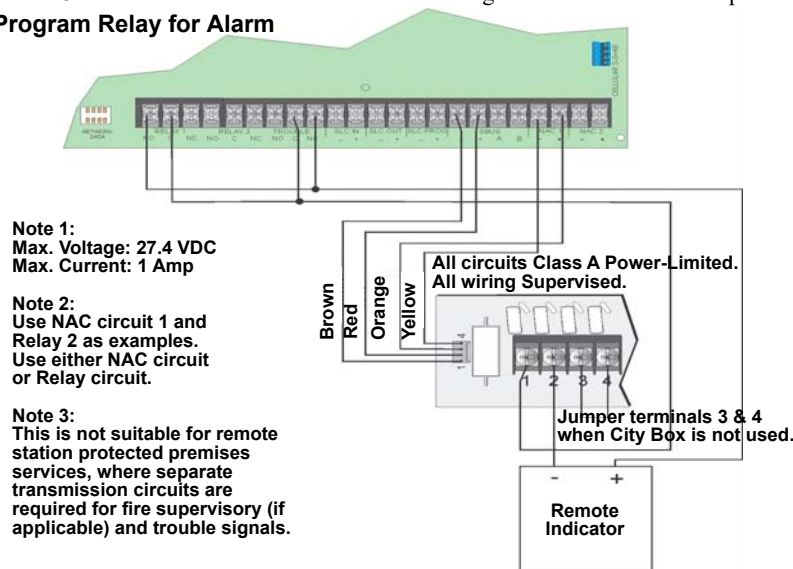

Figure 4.29 Polarity Reversal Connection Using the 5220 Module
2. Wire the 5220 to the control panel using the four-wire pigtail provided as shown in Figure 4.29. This diagram also shows how to connect the 5220 to the remote indicator.